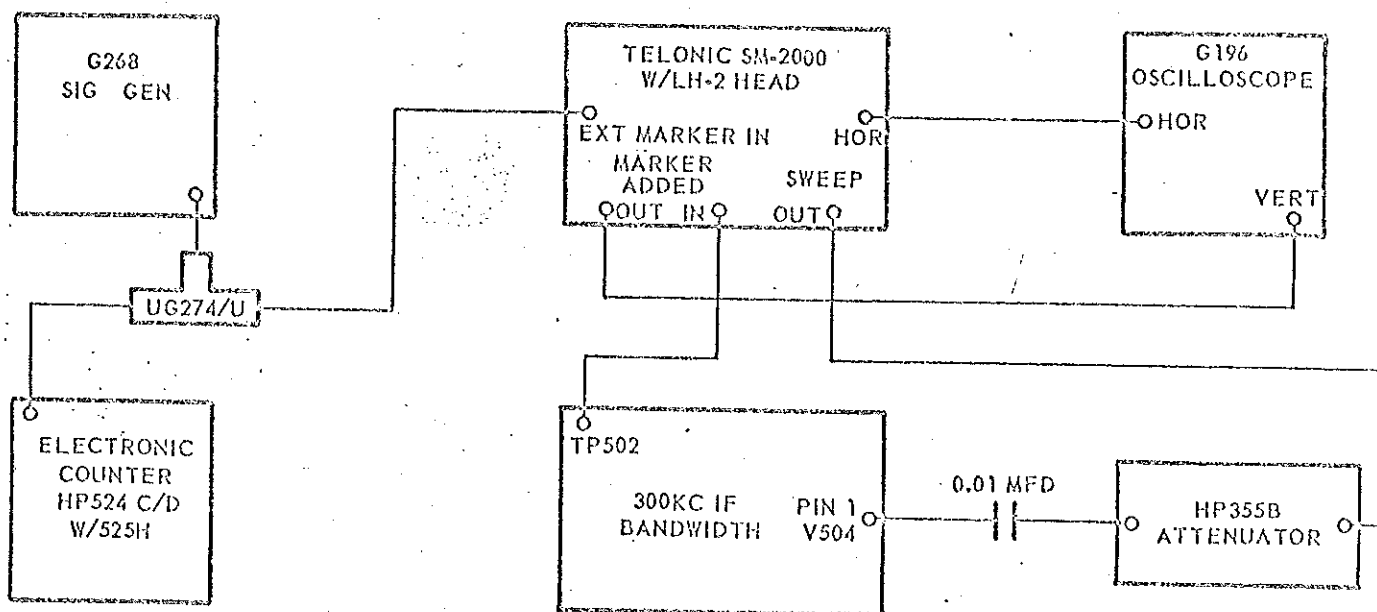

Figure 5-2
- Remove I-F bottom cover and connect test equipment as shown in figure 5-2.
- Remove V403 and V502 and connect test equipment as shown in figure 5-2, except transfer connection shown at TP502 to TP501 and connection at V504, pin 1 to V503, pin 1.
- a. Replace V502 and connect test equipment as shown in figure 5-2, except transfer connection shown at V504, pin 1 to V502, pin 1.
- a. Connect test equipment as shown in figure 5-2, except transfer connection shown at V504, pin 1 to V501, pin 1.
- c. Connect test equipment as shown in figure 5-2, except transfer connection shown at V504, pin 1, to TP402 (located in low band tuner).